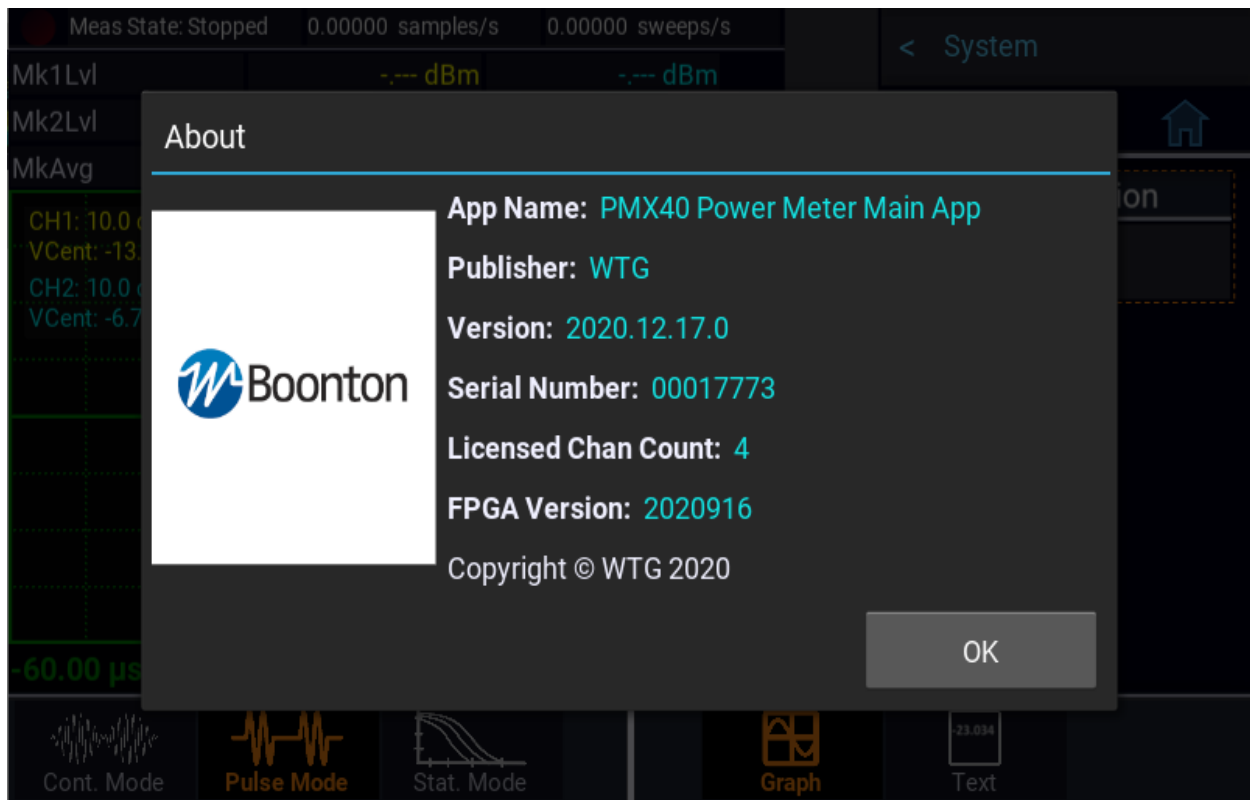

Figure 2-3. System > Configuration Report Display
- On the front panel, press the ● key to bring up the on-screen menu. From the Main menu, use the touch screen or the ◀, ▶, ▲, ▼, and ● keys on the front panel to browse to System→Reports→Configuration and select Show. A display similar to Figure 2-3 should appear.